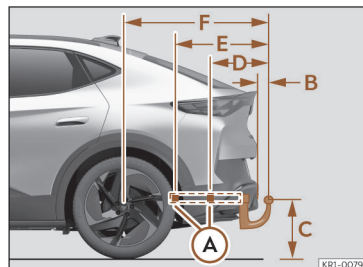

Fig. 179 Towing device: dimensions and attachment points.
The distance between the centre of the ball head and the road >>> **Fig. 179 (C)** must never be less than that indicated. This also applies when the vehicle is fully loaded, including the technically permissible maximum vertical load on the coupling device.